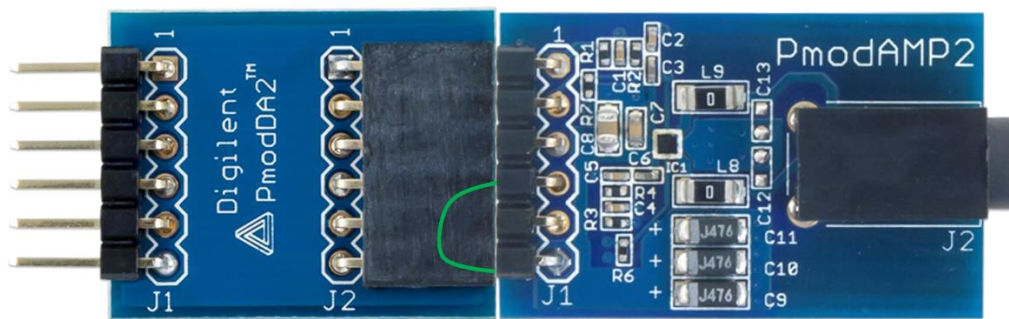

Figure 2. Connection between PmodDA2 and PmodAMP2
**Attach PmodAMP2 to the output ports of PmodDA2 (Figure 2).**